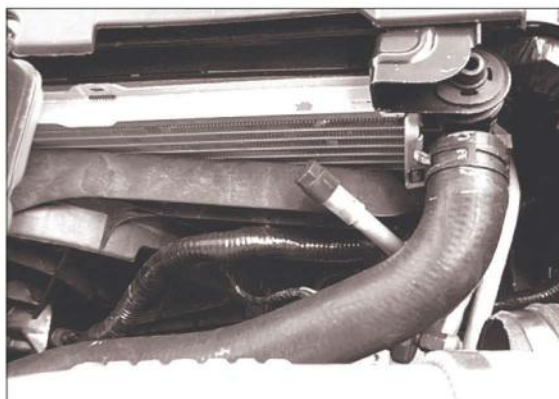

Fig. 6-a
- A. Carefully bend the high pressure air conditioning line (the line with the pressure port and cap) so that the pressure port rotates down (for super-charger inlet clearance). (See Fig. 6-a.)